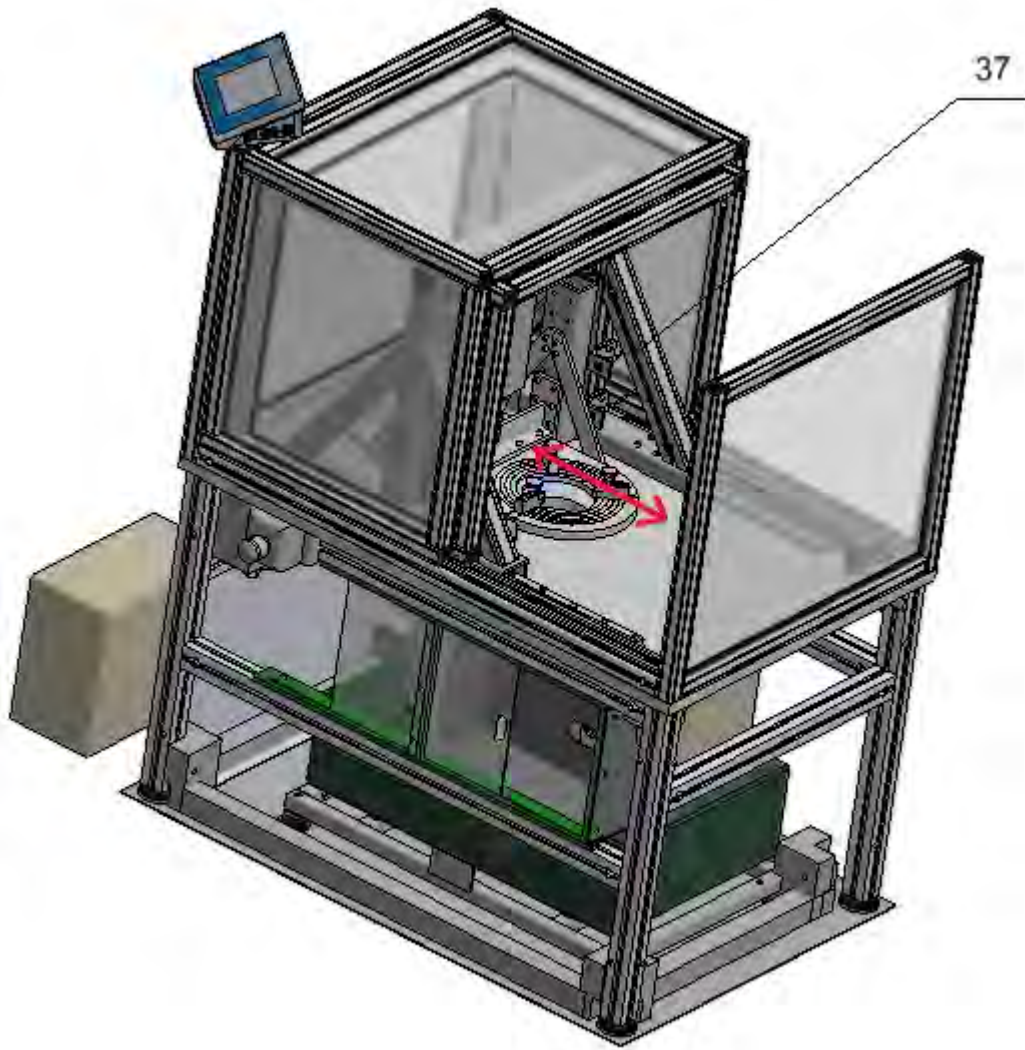

Fig.15
28. Run comparator, reposition location of weight holder (37) from operating position 1 to operating position 2, next check if the spacer ring (31) is concentrically located to opening (32) of weight holder (analogically to point 25). (Fig. 15)
29. Reposition location of weight holder (37) – normal position, and again check if the spacer ring (31) is concentrically located to opening (32) of weight holder. (Fig.15)